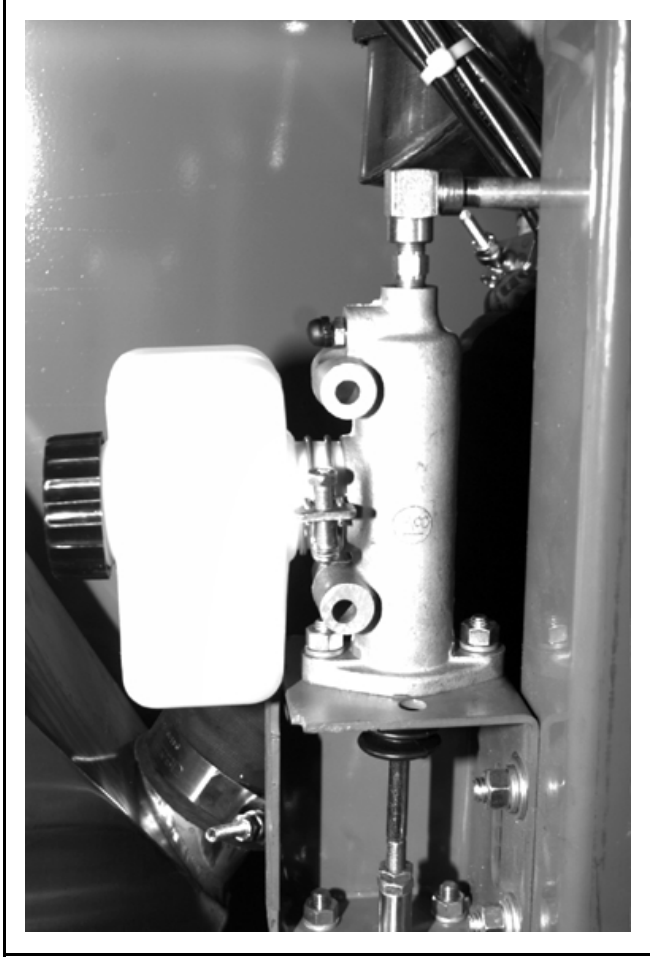

FIGURE 21 (MSSM0201CE)
• Disk brake reservoir (60" and 72" Staph-Guard [®] only) FIGURE 21	Check level, refill as required (Always use fresh fluid from a sealed container)